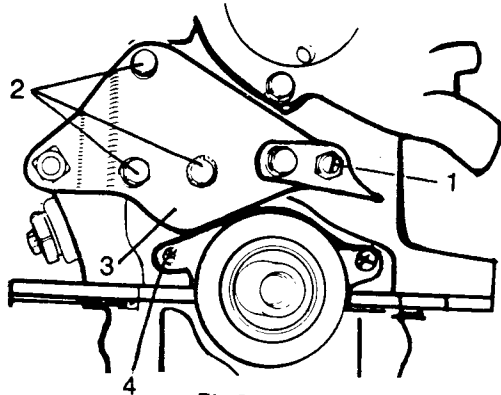

Fig B4.109
- (10) Refer to Fig B4.109. Remove the locknut (1) and three bolts (2) and lift away the timing cover (3).
- (11) Slacken the sump screws sufficiently to lower the sump by approximately 5 mm.
- (12) Remove the two seal housing screws (4). Carefully separate the housing gasket from the sump gasket with a suitable blade or knife and remove the housing.